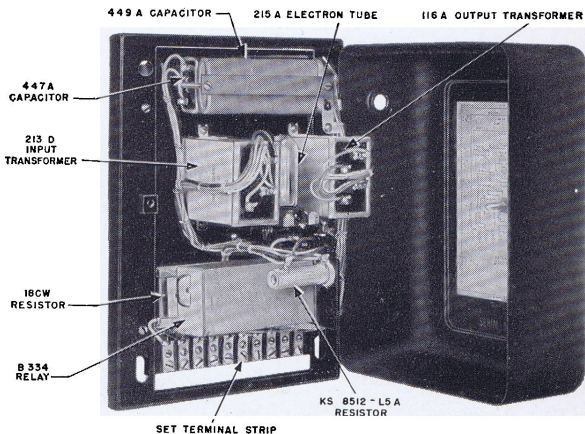
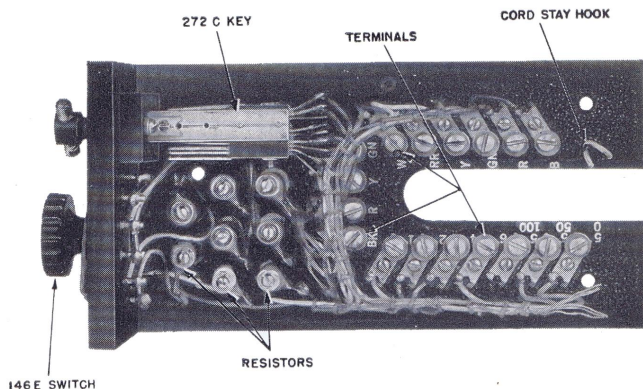

Fig. 1—23A Amplifier
Fig. 2—6013B Key (Internal)
- 2.01 The key equipment 10A is designed to be used at manual or dial common battery stations. The key equipment 10A employs a 207-type hand telephone set or its equivalent, a 23A electron tube amplifier (shown in Fig. 1), and a 9A battery box with 1-1/2-volt and 67-1/2-volt battery supply. It also has a 6013B key (see Figs. 2 and 3), which has an on-off switch to turn the amplifier on and off and a volume control dial.